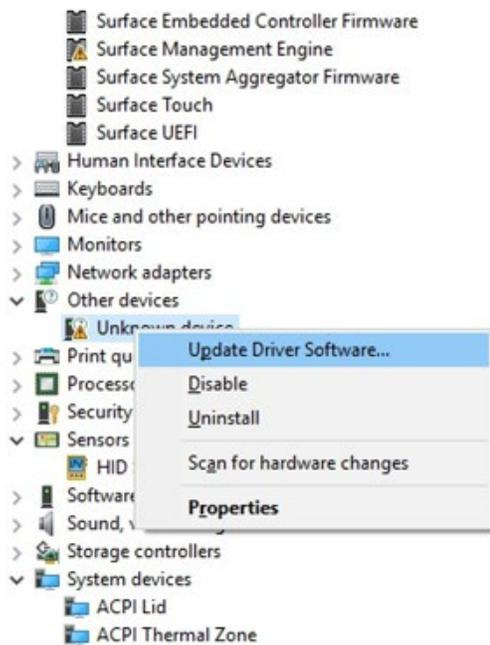

Figure 5. Update driver software.
- a. To update the driver, right click on "Unknown Devices" and select "Update Driver Software," as shown in Figure 5.